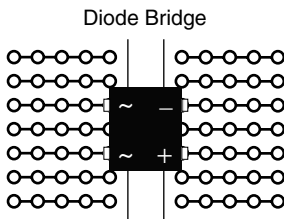
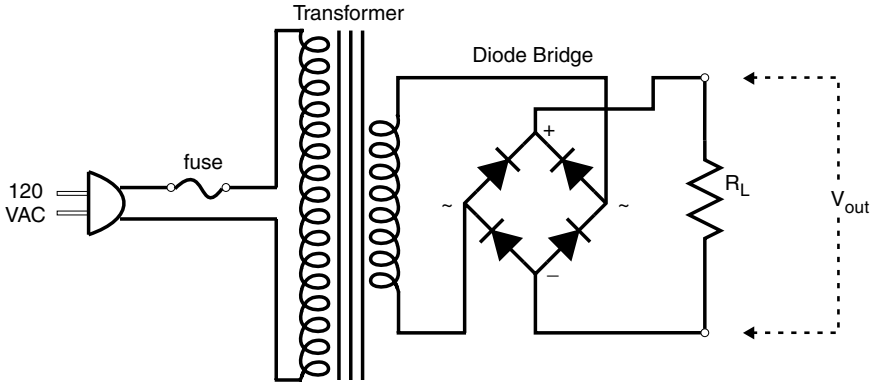

Fig. 3.9. An example of how to insert a diode bridge into a breadboard.
Fig. 3.10. Full-wave rectification using a diode bridge.
Full-wave rectification should decrease the ripple by about a factor of two. This can be accomplished using two diodes and the transformer’s center tap or by using a diode bridge. Diode-bridge rectifiers are available as a single encapsulated unit, making the bridge-rectifier approach particularly convenient. These bridges have four diodes within. The terminals are labeled: ‘ \sim ’ marks the two terminals that should be connected to the transformer secondary, and ‘+’ and ‘-’ denote the positive and negative outputs (see Fig. 3.9).
- ▷ Set up the bridge rectifier circuit of Fig. 3.10 with $R_L = 10\text{ k}$. (Insert the rectifier package straddling the central groove of a breadboard socket unit, with the long dimension of the package running along the groove, as shown in Fig. 3.9.) Four rectifier diodes can be used if a bridge rectifier is not available. As before, observe and record the voltage waveform across R_L .